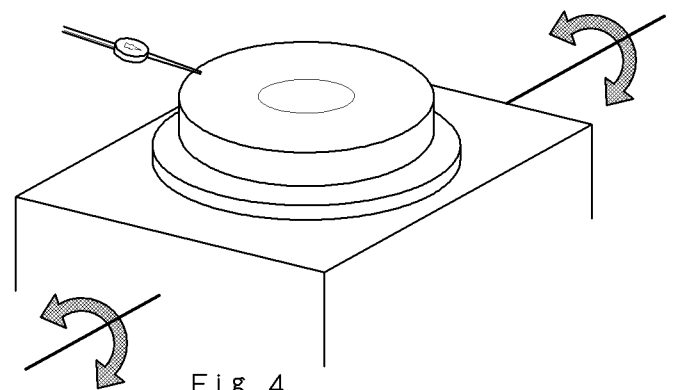

Fig 4
- 2) After turning the tilting body at about 10kg in the minus direction, loosen force and read the value of dial gauge with the body maintained at the force of 2~3kg in the same direction. Similarly turn the body in the reverse direction and read the value of dial gauge. This difference of measuring values is the backlash. (See Fig.4.)